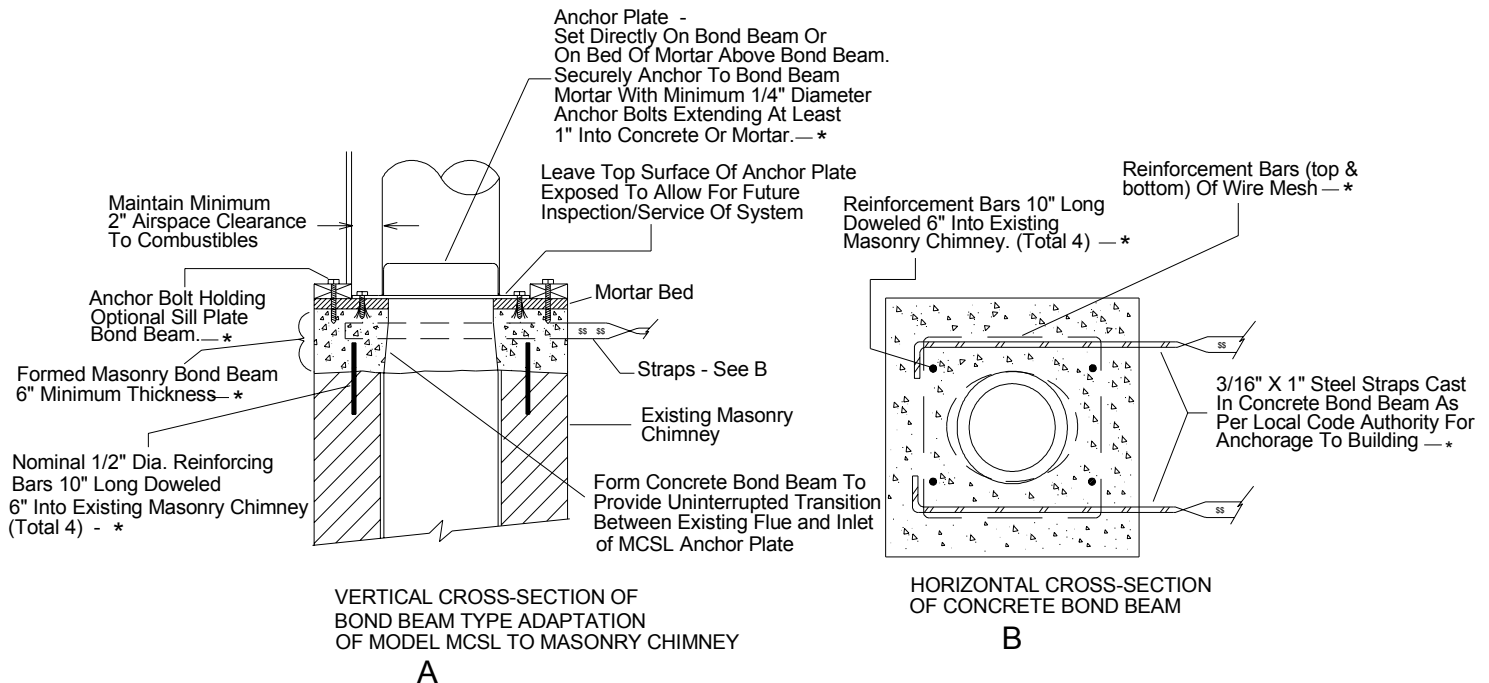

Fig. 5a
The Anchor Plate (AP) provides a connection from a masonry fireplace to Model GTL/UTL. The Anchor Plate may also be used to attach Model GTL/UTL to an existing masonry chimney. The method for making the transition from an existing masonry chimney to the GTL/UTL is known as the "Bond Beam" transition method and is detailed in Fig. 5a.
The masonry chimney should be leveled at the appropriate height and a concrete Bond Beam should be properly constructed by a qualified person / contractor as shown in Fig.5a. Unless otherwise specified by local code, the Bond Beam should be a minimum of 6" thick and provide an
Although not mandatory, it is recommended to apply a 3/4" deep bed of mortar on top of the Bond Beam and ultimately attach the Anchor Plate to the bed of mortar with the use of four 1/4" diameter, 2" long anchor bolts. (See Fig. 5a and 5b). Regardless, the top surface (whether Bond Beam or mortar) should be level.
Local codes may permit or require minor variations in the Bond Beam construction. Contact Local Code Authorities for specific requirements in your area. (See Fig.5a and 5b)